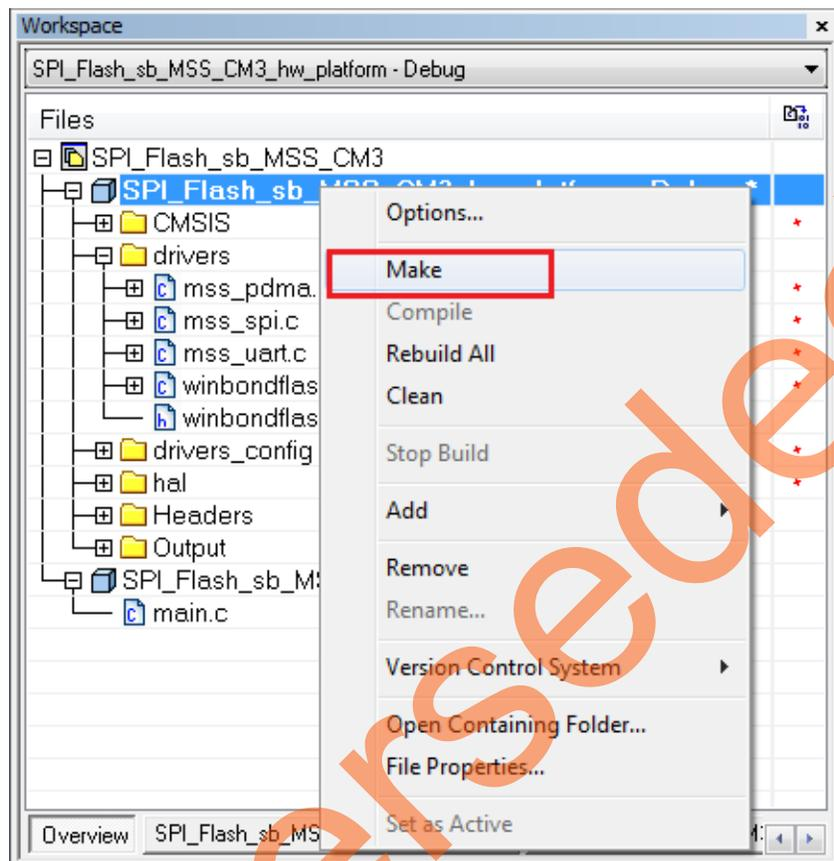
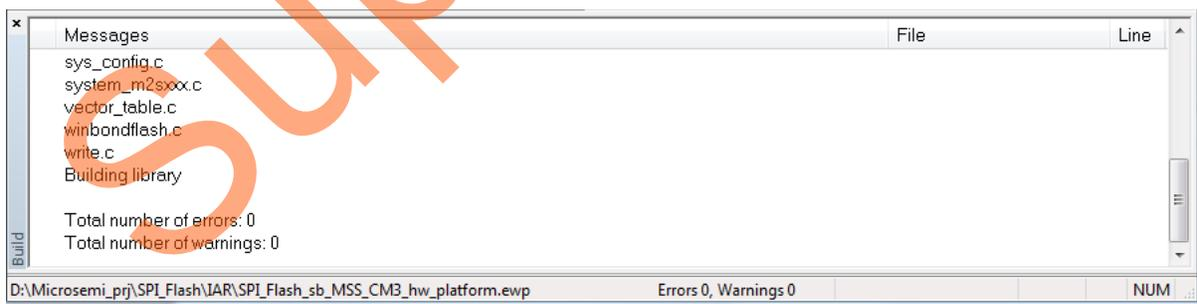

Figure 31 • IAR Workspace - Hardware Platform Code Compilation using Make
Figure 32 • IAR Workspace - Successful Hardware Platform Code Compilation using Make
15. Right-click **SPI_Flash_sb_MSS_CM3_hw_platform - Debug** and select **Make**, as shown in Figure 31 and Figure 32.
Successful Hardware Platform Code Compilation page is displayed as shown in Figure 32.